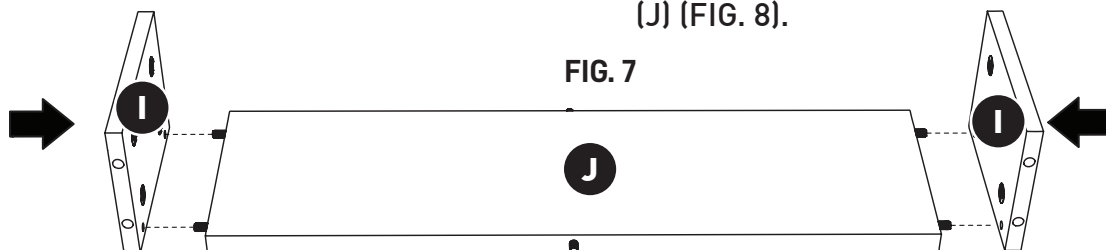

FIG. 7
Step 7. Attach Sides (I) to Bottom panel (J) by pushing dowels on short sides of J into holes on sides I (FIG. 7).